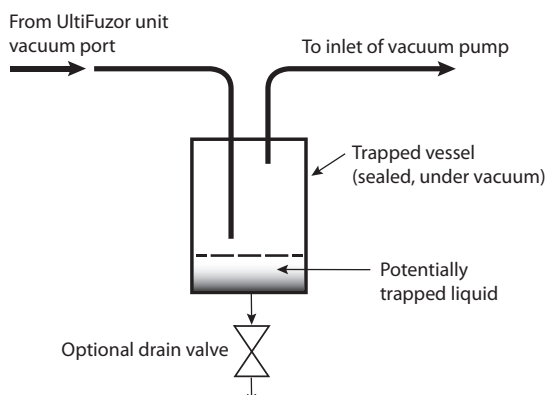

Figure 3: Schematic of a liquid trap set-up
- 3.4 In order to avoid drawing any condensable vapor or liquid ink (in the case of damage to the UltiFuzor module) into the vacuum source, a trap may be placed between the vacuum port of the module and the vacuum pump (figure 3). This device should utilize standard trap construction with a vacuum tight vessel that can collect liquids and be drained periodically, if required. If safety is a concern, this trap may be maintained at a low temperature to condense any solvent that might evaporate from the ink, due to the applied vacuum.